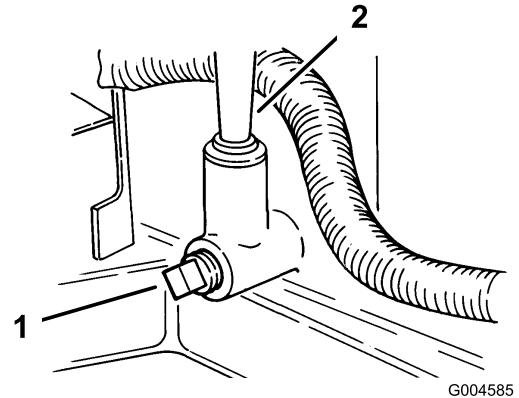

Figure 20
9. Place a drain pan below the oil dipstick/fill hole and remove the drain plug (Figure 20).